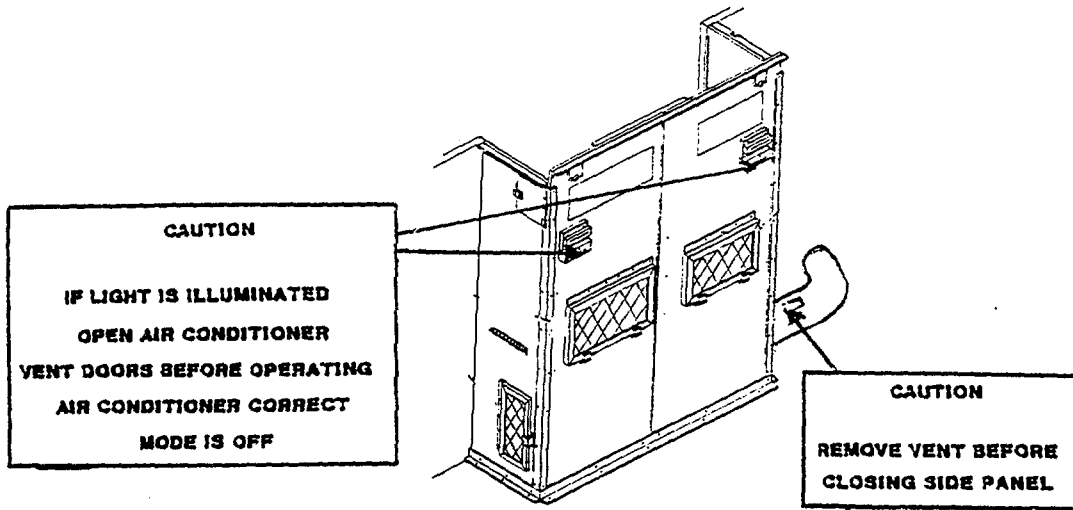

Figure 2-21. Air Conditioner Assembly Decals
- d. Air Conditioner Assembly. Figure 2-21 identifies decals for the air conditioner assembly.